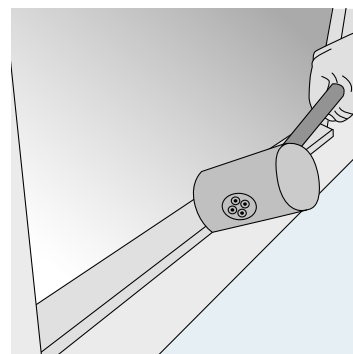

Figure 3
15. The glazing beads are gently pressed/tapped into place using a rubber mallet (figure 3).